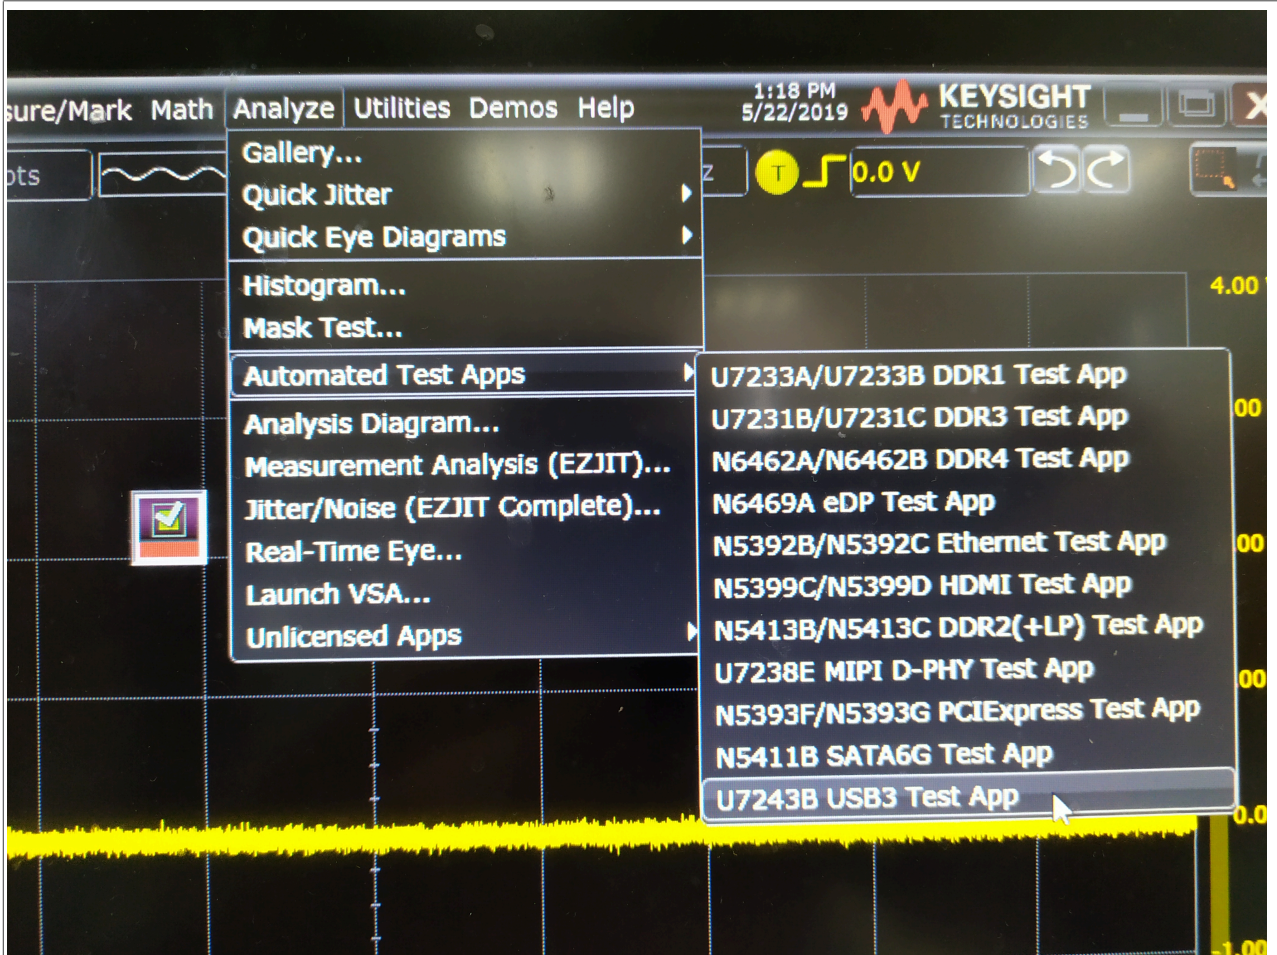
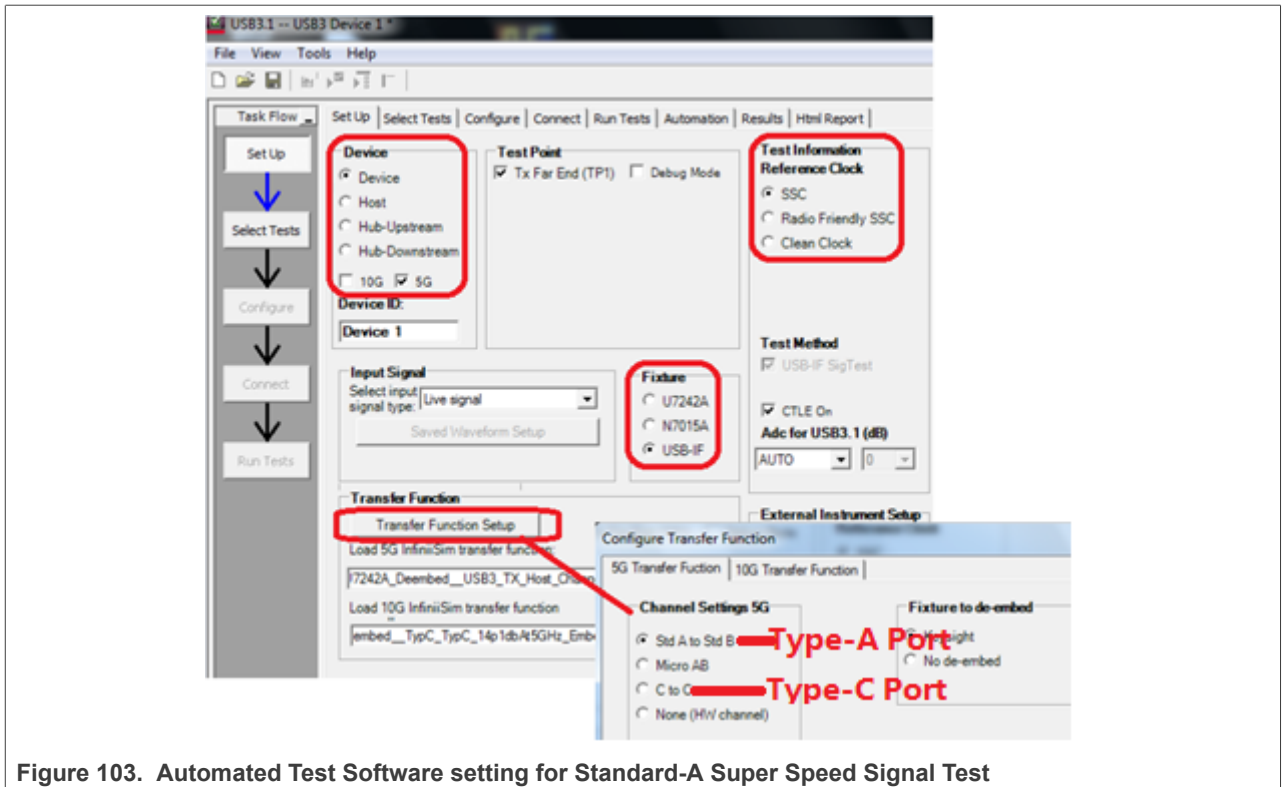

Figure 102. Automated Test Software for USB 3.0
Figure 103. Automated Test Software setting for Standard-A Super Speed Signal Test
1. Select the test items in the USB Automated Test Software on Oscilloscope as shown in Figure 102 below, and make sure you set the Test Type configuration option in Figure 103. If the DUT is a Standard A port, “Configure Transfer Function” should be “Std A to Std B”. If the DUT is a Type-C port, “Configure Transfer Function” should be “C to C”.